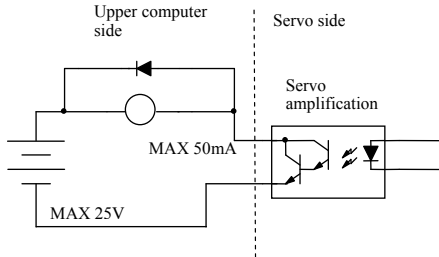
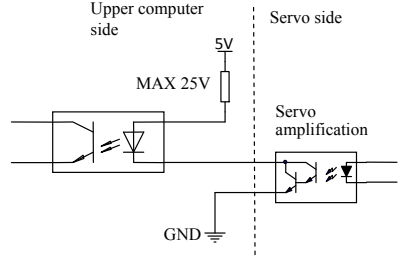

Figure 5-9 Type2 Output Interface Type 1: Relay
Figure 5-10 Type2 Output Interface Type 2: photocoupler
Switch output interface includes two types: (1) Type 1: relay connection, and (2) Type 2: photocoupler connection. For their schematic diagrams, see Figure 5-9 and Figure 5-10.